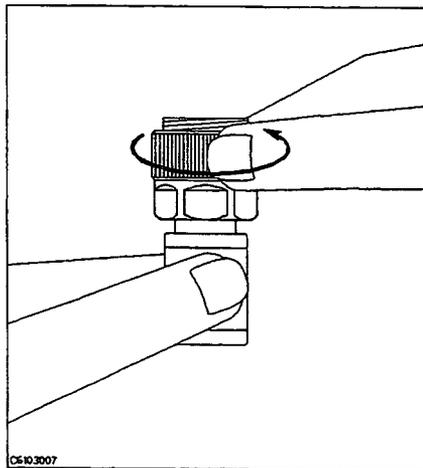

Figure 5-9.
11. Turn only the APC-7[®] connector nut of the 50 Ω termination as shown in Figure 5-9.